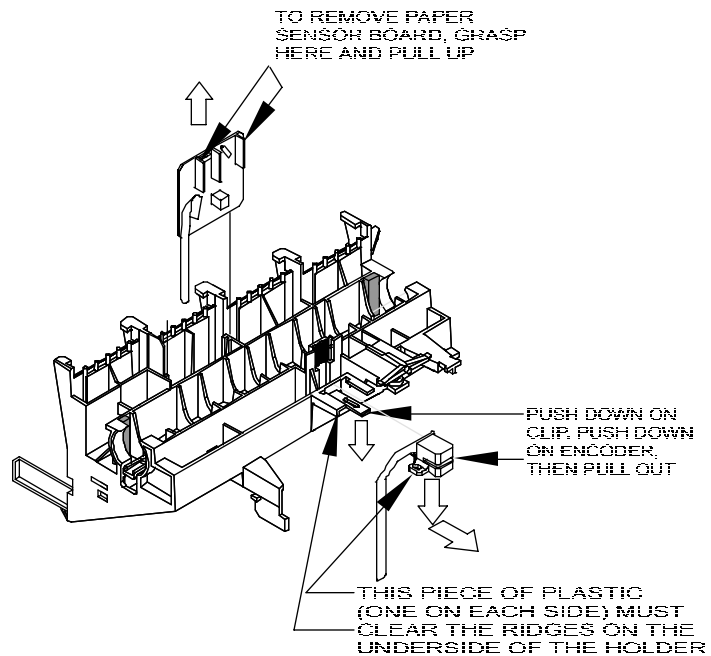

Figure 5-16. Paper and Encoder Sensor Removal.
- b. Turn the Carrier Assembly over and hold it while firmly grasping the Paper Sensor between thumb and index finger. See Figure 5-16.